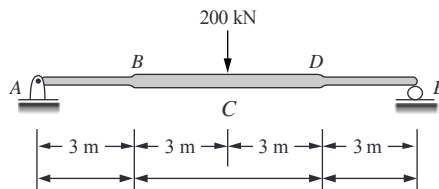

Figure P4–36
- 4.36 For the stepped shaft shown in Figure P4–36, determine a solid circular cross section for each section shown such that the bending stress does not exceed 160 MPa and the maximum deflection does not exceed  $\frac{L}{360}$  of the span.